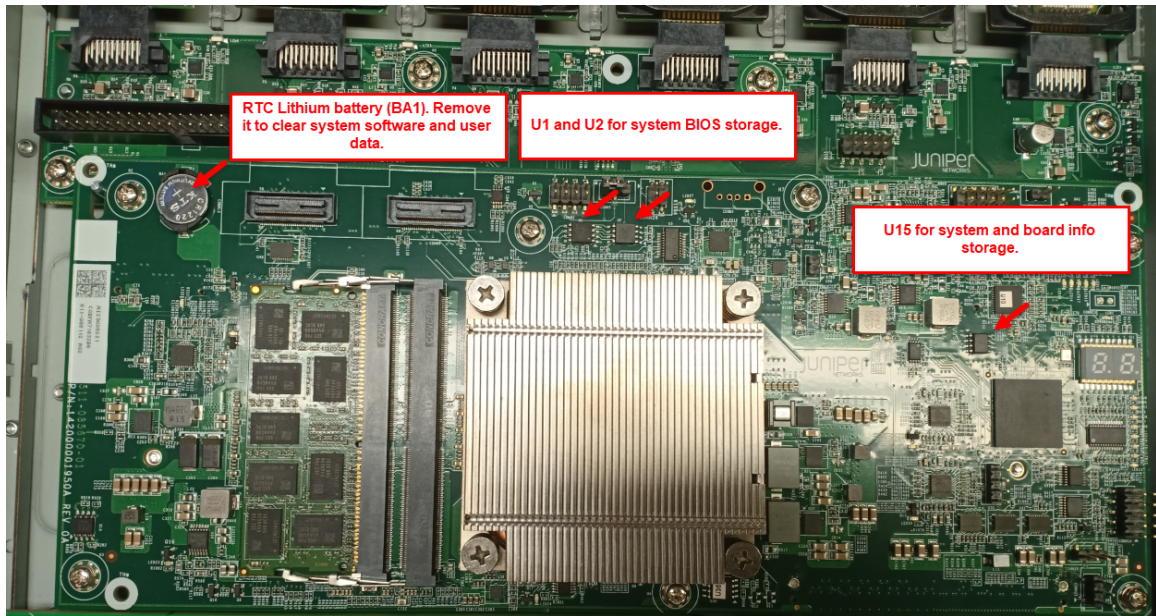

Figure 3-5: Locate NV storage devices on CPU board
7. Locate NV storage devices on CPU board (Figure 3-5).